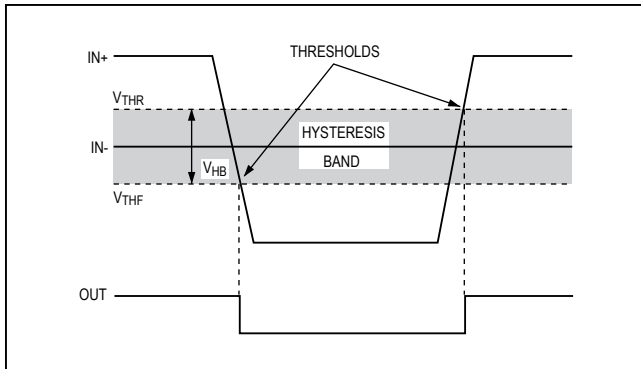

Figure 2. Threshold Hysteresis Band
**Note 3:** The hysteresis-related trip points are defined as the edges of the hysteresis band, measured with respect to the center of the band (i.e., VOS) (Figure 2).
The hysteresis in a comparator creates two trip points: one for the rising input voltage ( $V_{THR}$ ) and one for the falling input voltage ( $V_{THF}$ ) (Figure 2). The difference between the trip points is the hysteresis ( $V_{HB}$ ). When the comparator’s input voltages are equal, the hysteresis
effectively causes one comparator input to move quickly past the other, thus taking the input out of the region where oscillation occurs. Figure 2 illustrates the case in which  $IN-$  has a fixed voltage applied, and  $IN+$  is varied. If the inputs were reversed, the figure would be the same, except with an inverted output.